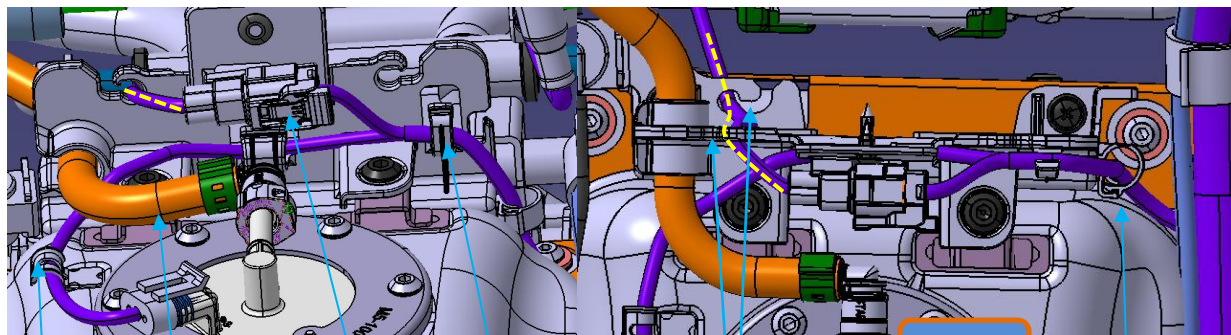

Figure 22
(1) Secure the oxygen sensor harness through the fuel tank heat shield slot, route it along the heat shield to the top, and pass it through the heat shield slot to secure the connector onto the heat shield. Secure the fuel pump branch cable to the fuel tank heat shield with cable clamp (Φ12) (91402-M62-0001). Branch the harness after passing it through cable clip 1, then mate the oxygen sensor main cable connector with the sensor-end connector, as shown in Figure 22;